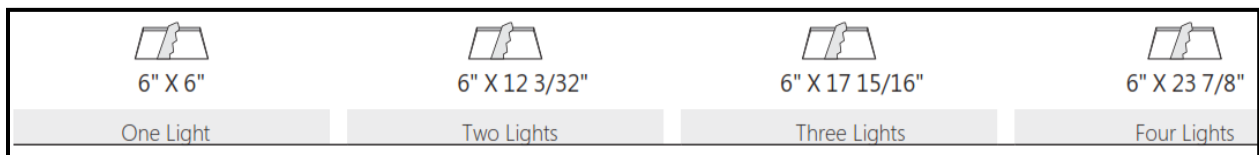

Figure 2.
- b) Cut a square or rectangular hole in drywall as shown on figure 2. (Perforated plaster plate supplied by Reggiani may be used as cutting template).